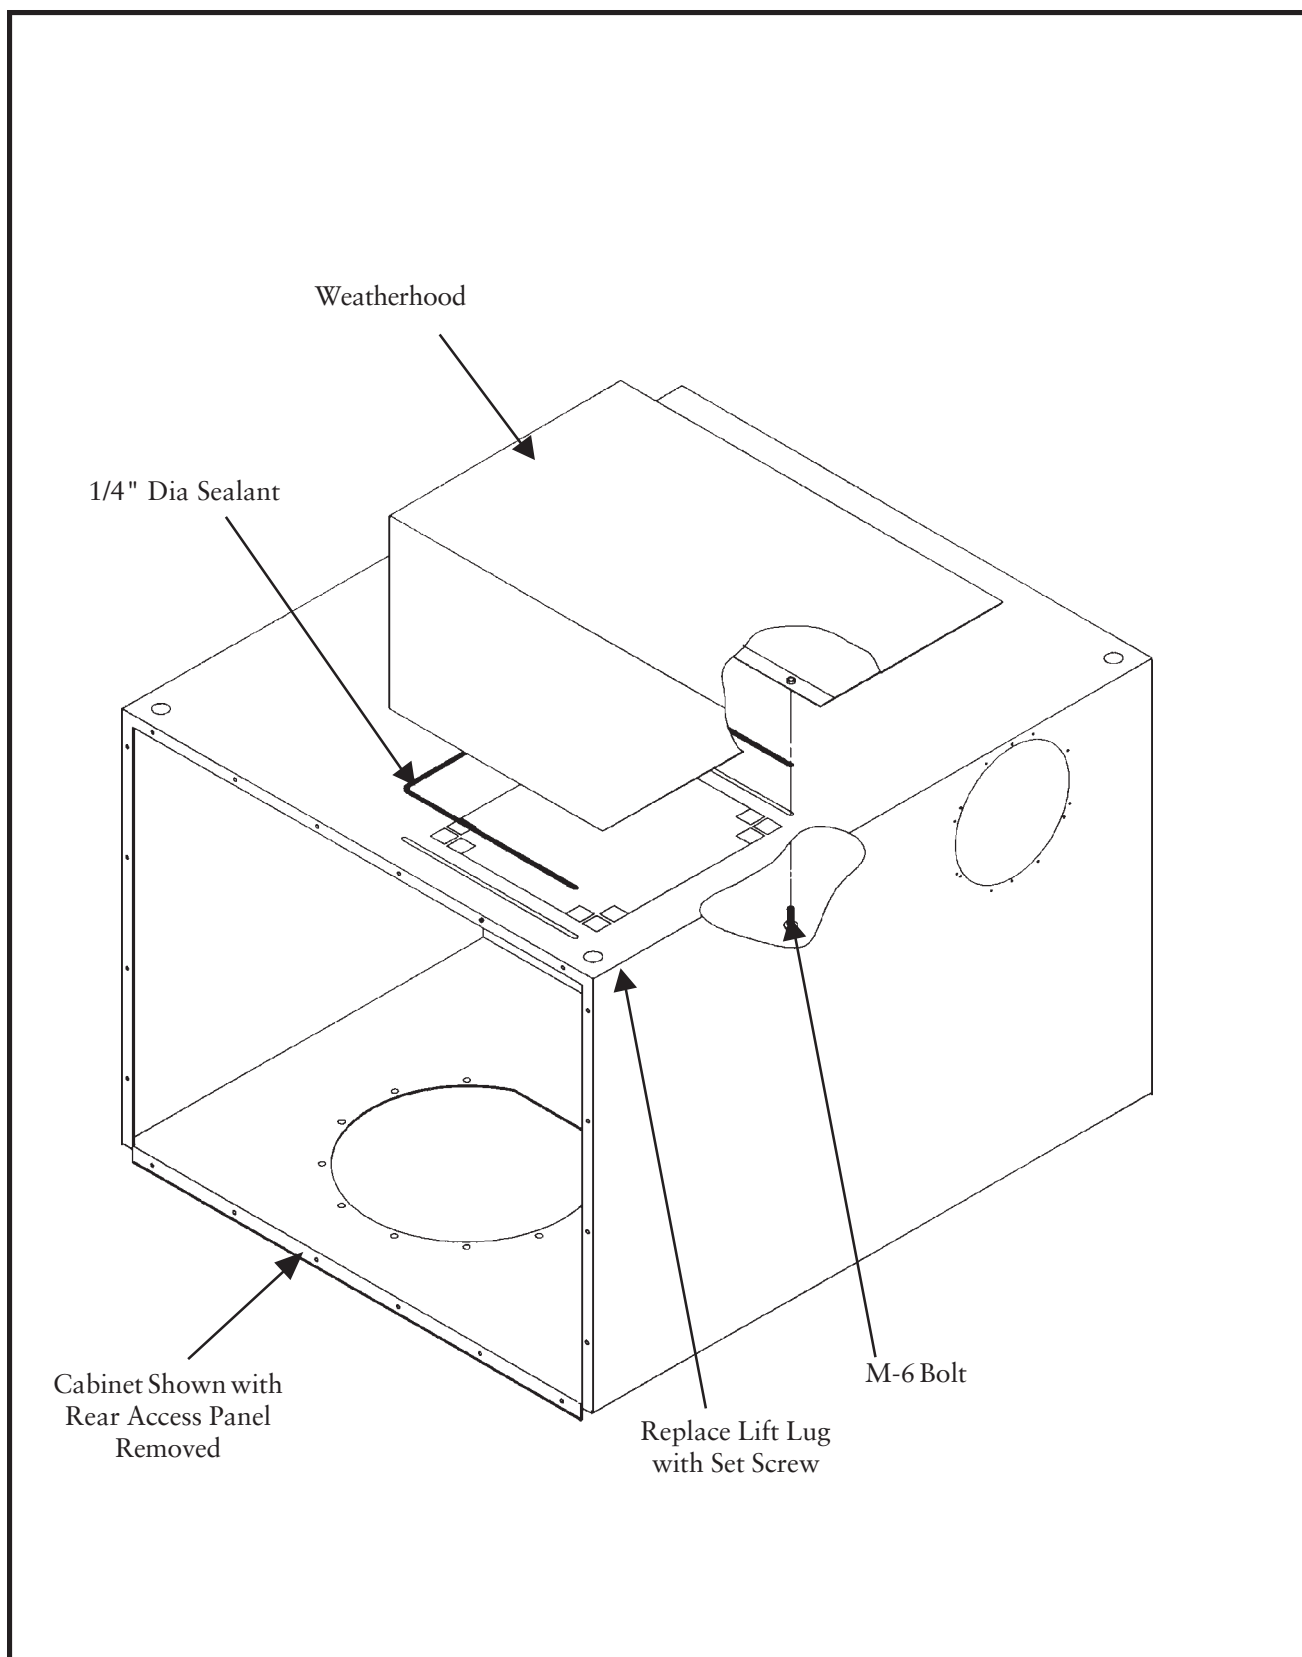

Figure 13
2.5.12 Weatherhood Pack (See Figure 13 Weatherhood Pack)
Remove the bolts and the rear access panel to the SDF. If the SDF is equipped with an outlet damper (see Figure 1 SDF-4 Phantom View), this damper must be removed. The weather hood cannot be used with the outlet damper. Also, remove the lift lug from the corner of the cabinet and replace it with the M-16 set screw provided. Place 1/4" diameter sealant between the cabinet top and the weatherhood. Position the weatherhood over the cabinet outlet, as shown in Figure 13 Weatherhood Pack, and attach the weather hood to the cabinet using the four M-6 bolts provided. These bolts should be inserted through the slots on the cabinet roof and screwed into the weld nuts on the weatherhood. Replace the rear access panel and bolts.